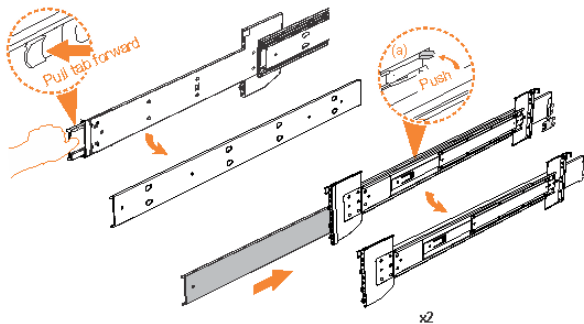

Figure 39. Detaching the inner rail section
3. Remove the inner member of the rail. Push the tab (a) and slide the middle rail member back, as shown in Figure 39 on page 82.